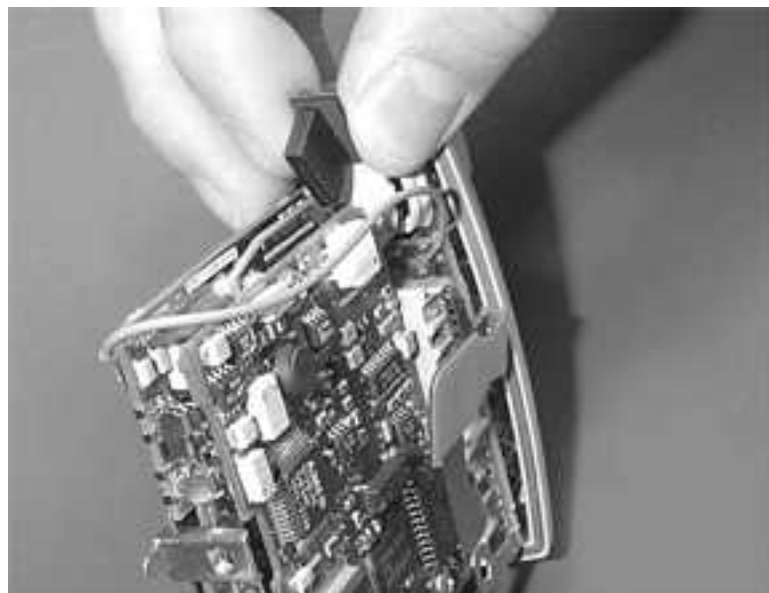

Figure 6-10 Connect the SpO₂ Connector Cable
Step 9. Connect the SpO₂ connector cable to the side of the SpO₂ Board. The connector is keyed so it cannot be inserted incorrectly. See Figure 6-10.